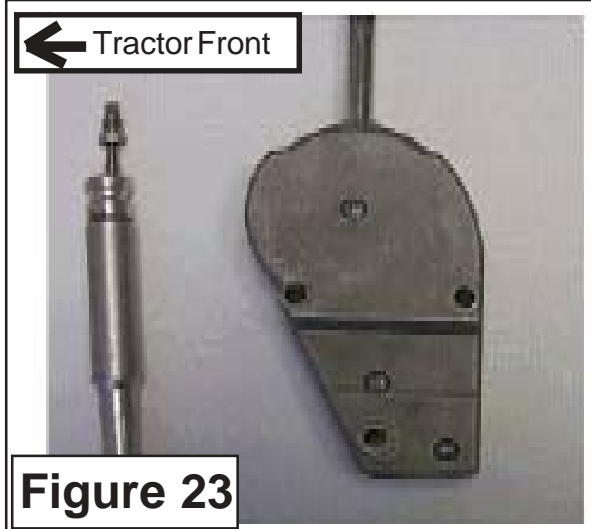

Figure 23
6. Each controller assembly comes fully assembled. All required hardware etc. is included. The control cables are not included with the control handles and should be ordered separately. The Controller must face forward as shown or controls will be backward (See Figure 23)